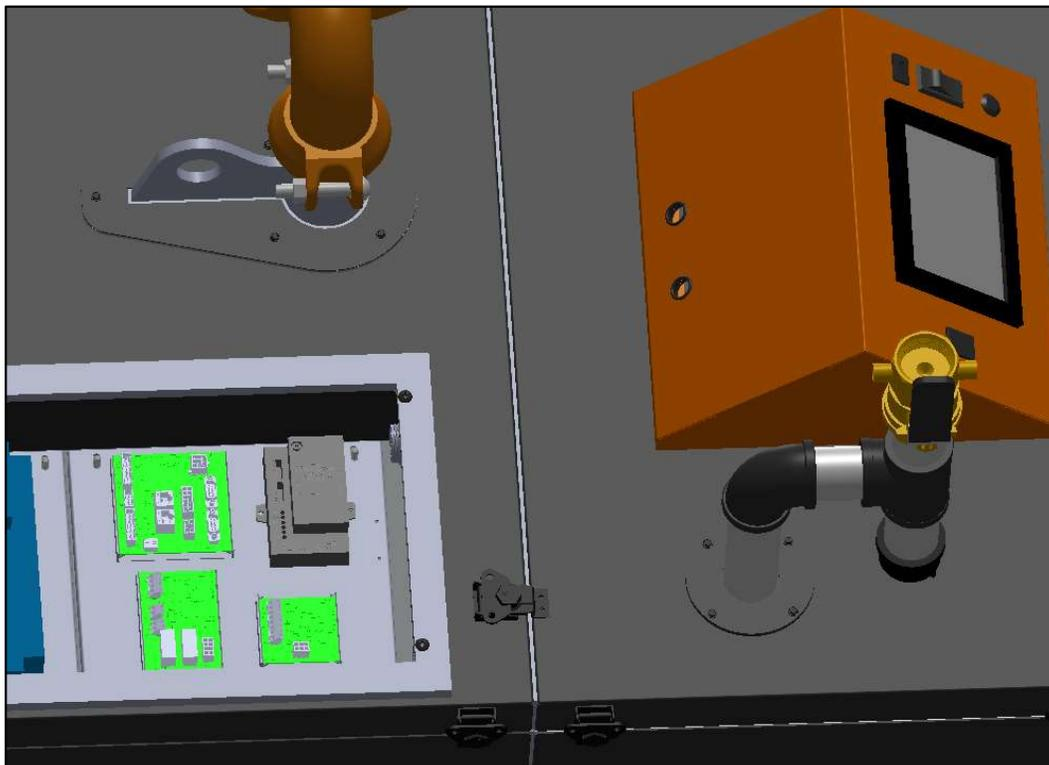

Figure 11-1: ProtoNode Mounting Location for AMP/BFIT 1500-4000, CTD 1500
- Use the provided ½" long self-drilling screws (PN: 80860743) to mount the ProtoNode inside of the boiler next to PCB-06. See Figures 11-1 and 11-2 for boiler specific mounting location. Note – On AMP/BFIT 1000 & 1250 and CTD 1250 the ProtoNode should be mounted on the low voltage control panel located on the left side of the boiler. On Arctic/FreeFlex 1000 the ProtoNode should be mounted in the rear control box.